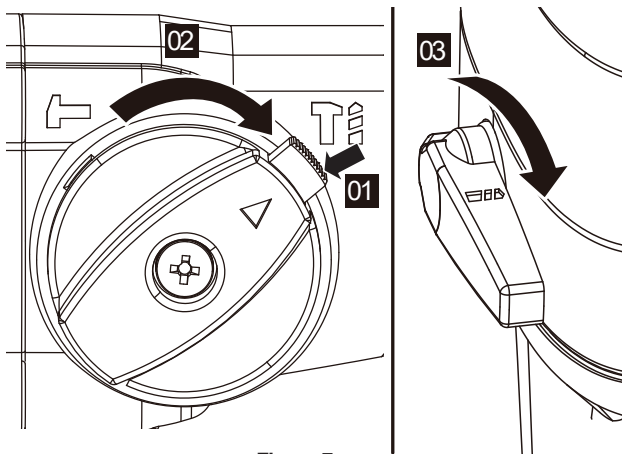

Figure 7
4. DRILLING FUNCTION (SEE FIG. 7)